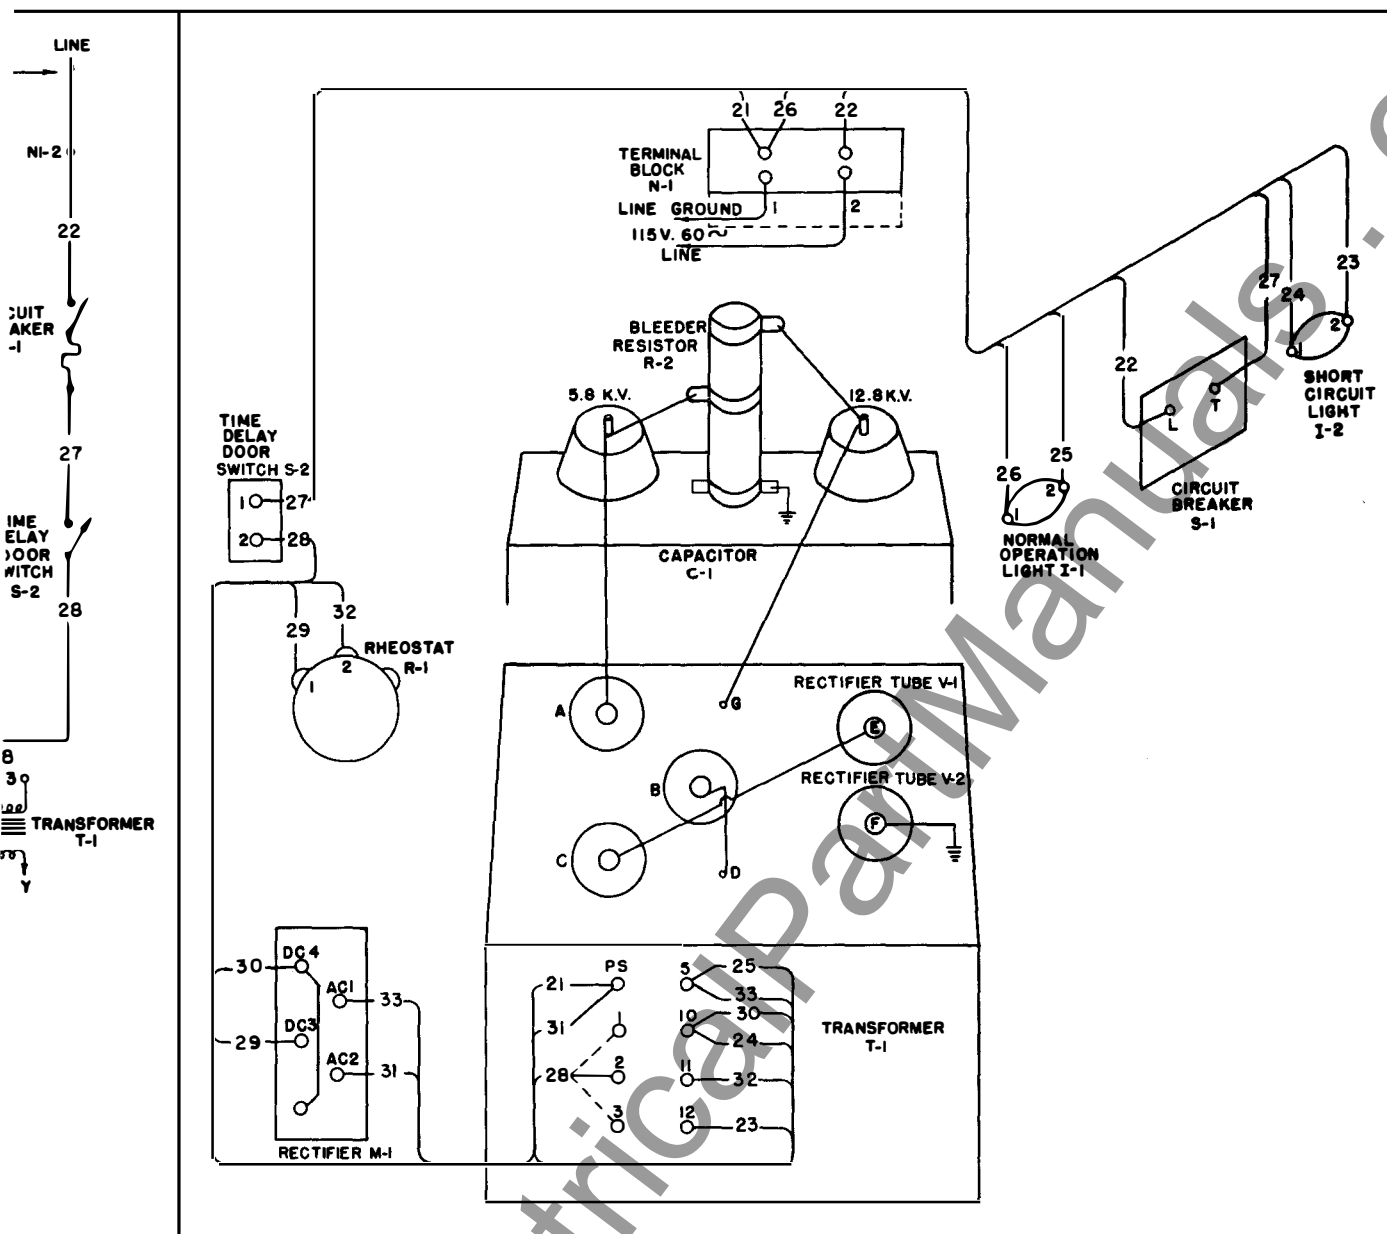

Fig. 3 Schematic and Detailed Wiring Diagrams
**PRECIPITRON Operating Voltages** are 12,800 volts dc for ionizers, 5800 volts dc for collector cells. These voltages are obtained by stepping up low voltage ac, rectifying it and charging a two-section capacitor in what is known as a modified voltage doubling circuit. During one half of the ac cycle, 5800 volts from terminals A-B of transformer T-1 (see Fig. 3) is rectified by tube V-2 to charge one
**High Voltage Connections.** (See "Caution" on page 4.) Connect the high voltage cables to the lugs provided at the top capacitor terminals. Solder the lugs to the cables. The terminal marked 12.8 KV is for the PRECIPITRON ionizer cable, the 5.8 KV terminal for the cell cable. (See Fig. 3.)
**Low Voltage Connections.** Connect the incoming low voltage supply to terminals 1 and 2. (See Fig. 3.)